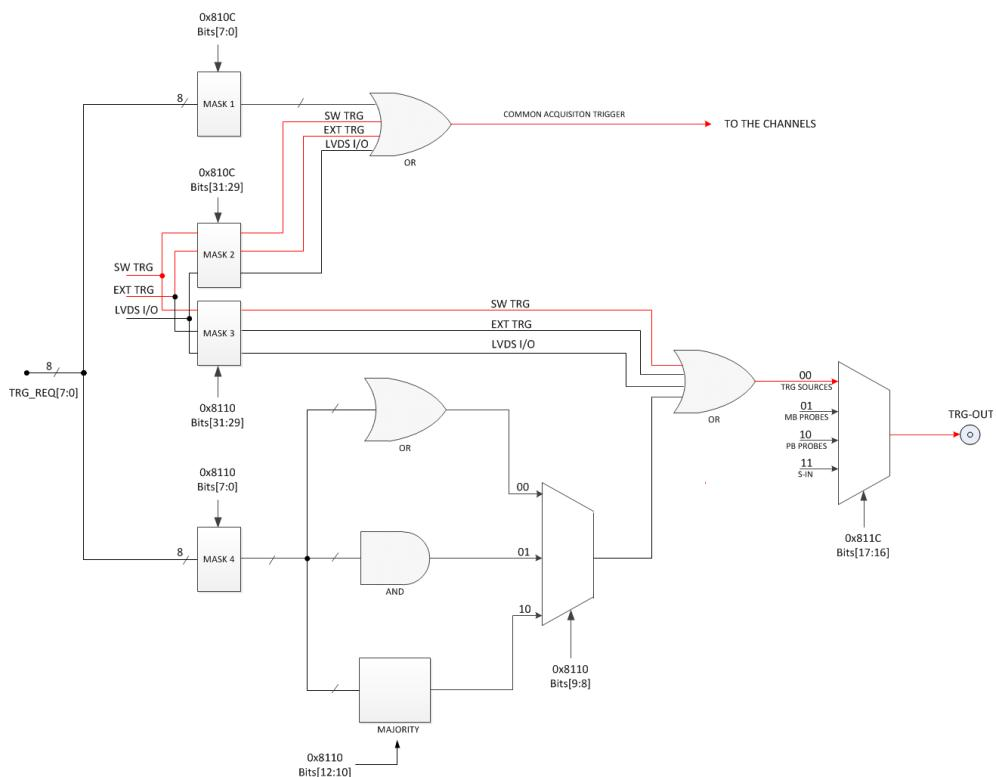

Fig. 9.13: Trigger configuration of TRG-OUT front panel connector.
LVDS I/O specific pins on the front panel dedicated connector can be programmed as trigger inputs and enabled to participate in the common trigger generation with other trigger sources. See Fig. 9.13 and refer to Sec. 9.10 for details.
As described in Sec. 9.8, the OR of all the enabled trigger sources, synchronized with the internal clock, becomes the common trigger of the board that is fed in parallel to all channels, consequently causing the capture of an event. By default, only the Software Trigger and the External Trigger participate in the common acquisition trigger (refer to the red path on top of Fig. 9.13).
- the OR of all the enabled trigger sources (only the Software Trigger is provided by default, as in the red path of Fig. 9.13);